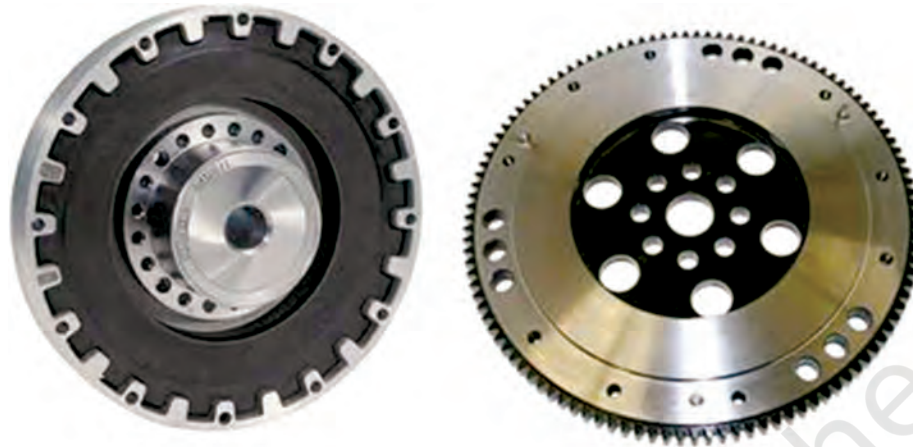

Fig. 3.15: Fly wheel
18. Flywheel: It is a wheel mounted on the crankshaft which stores the energy during the power stroke and transmits the energy to the transmission system, the clutch and then to the gear box (Fig. 3.15).